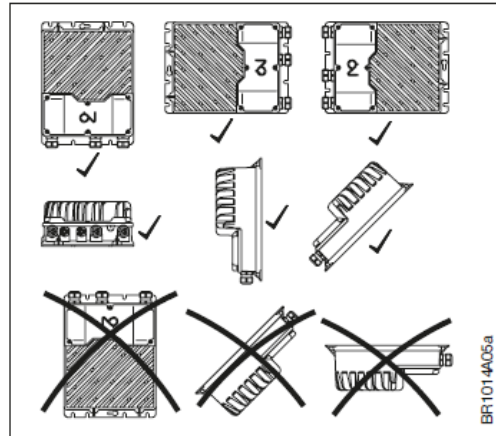

Fig. 3-6:
- To achieve the specified enclosure rating, the cable glands must not point upwards (see fig. 3-6).
- NI-DV can be mounted vertically, horizontally or at an incline. See fig. 3-6.